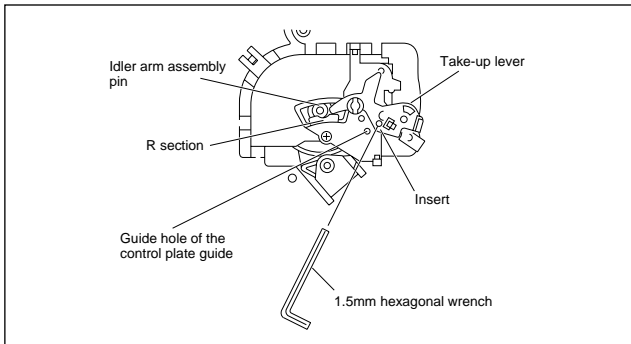
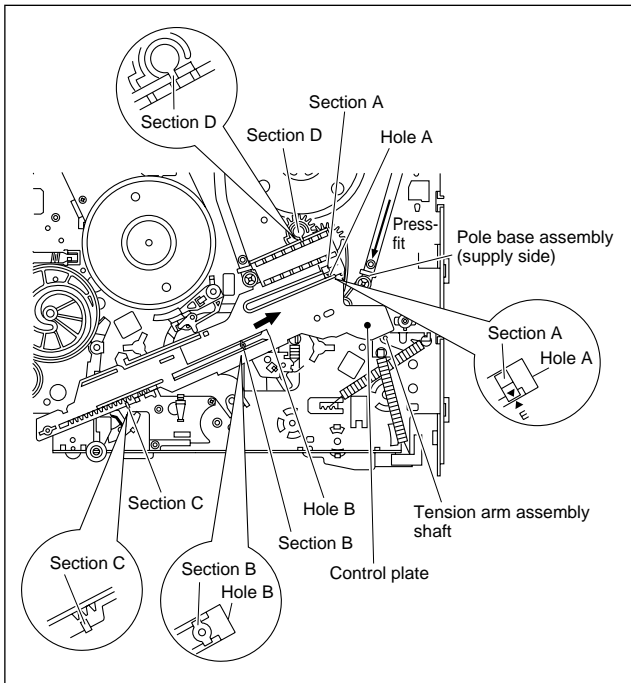

Fig. 2-2-15b
Fig. 2-2-15c
- (1) Adjust the position of the idler arm assembly pin as indicated in Fig.2-2-15b (to the left of center (centre) of the R section).
- (2) Bring the guide hole of the take-up lever into alignment with the hole at the control plate guide and fix the position by inserting a 1.5 mm hexagonal wrench.
- (3) Install the control plate so that the section A of the loading arm gear shaft fits into the hole (A) of the control plate, the section B of the control plate guide into the hole (B), and the control plate comes under the section C of the rotary encoder guide and the section D of the loading arm gear shaft while press-fit the pole base assembly (supply side) as indicated by the arrow. It is important that the tension arm assembly shaft is positioned closer toward you than the control plate. (See Fig.2-2-15c.)
- (4) Make sure that the mark E of the control plate is in alignment with the mark ▼ of the loading arm gear shaft. (See Fig.2-2-15c.)
- (5) Pull off the hexagonal wrench for positioning.